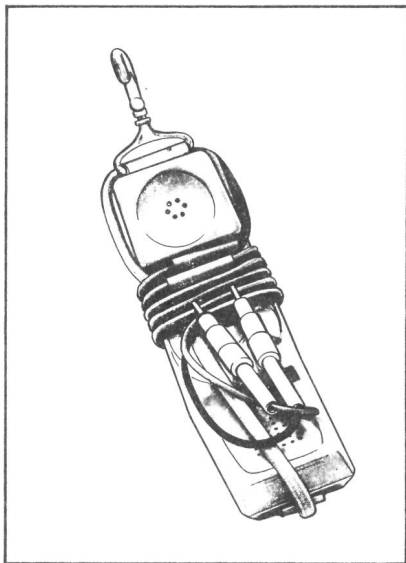

FIGURE 7. Method of Wrapping Cord When Handset is Not in Use
**2.10** When the handset is not in use, the cord should be wrapped as shown in Figure 7.